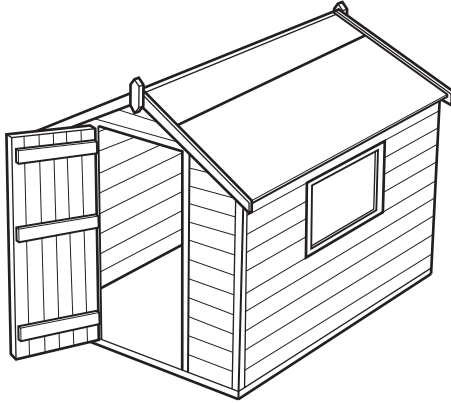

Fig. 1a
- 1 Fig. 1a shows a garden shed. The door has structural weakness and needs to be modified to overcome this weakness.